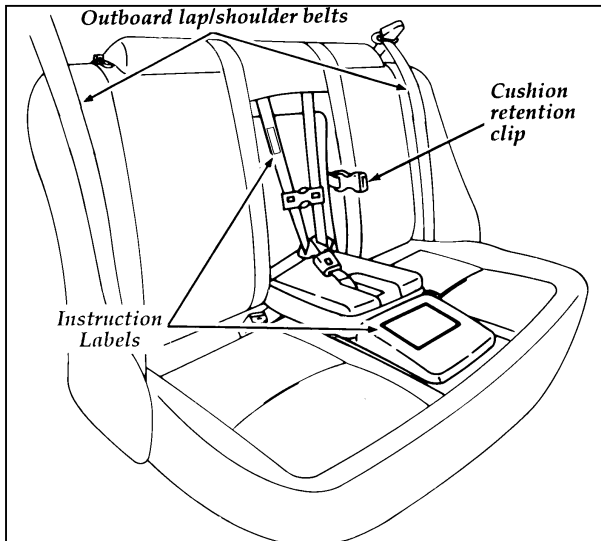

Figure 4: Location of cushion retention clip and warning/instruction labels
2. Release the cushion retention clip. See Figure 4.
4. Read the information and warnings on the top half of the child seat flap and shoulder belt. Refer to Figure 4. Check the child's size, weight and age to be sure the child is not too small or too large for the child seat.